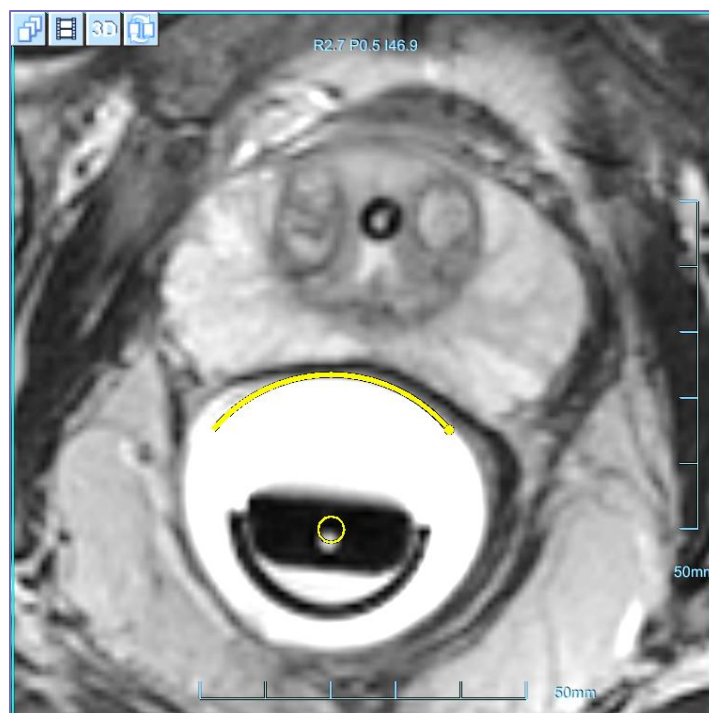

Figure 6-6: Balloon Boundaries (yellow arc)
1. Press this button to run the automatic **balloon boundaries** detection algorithm on the Baseline Anatomy images (see Figure 6-6).